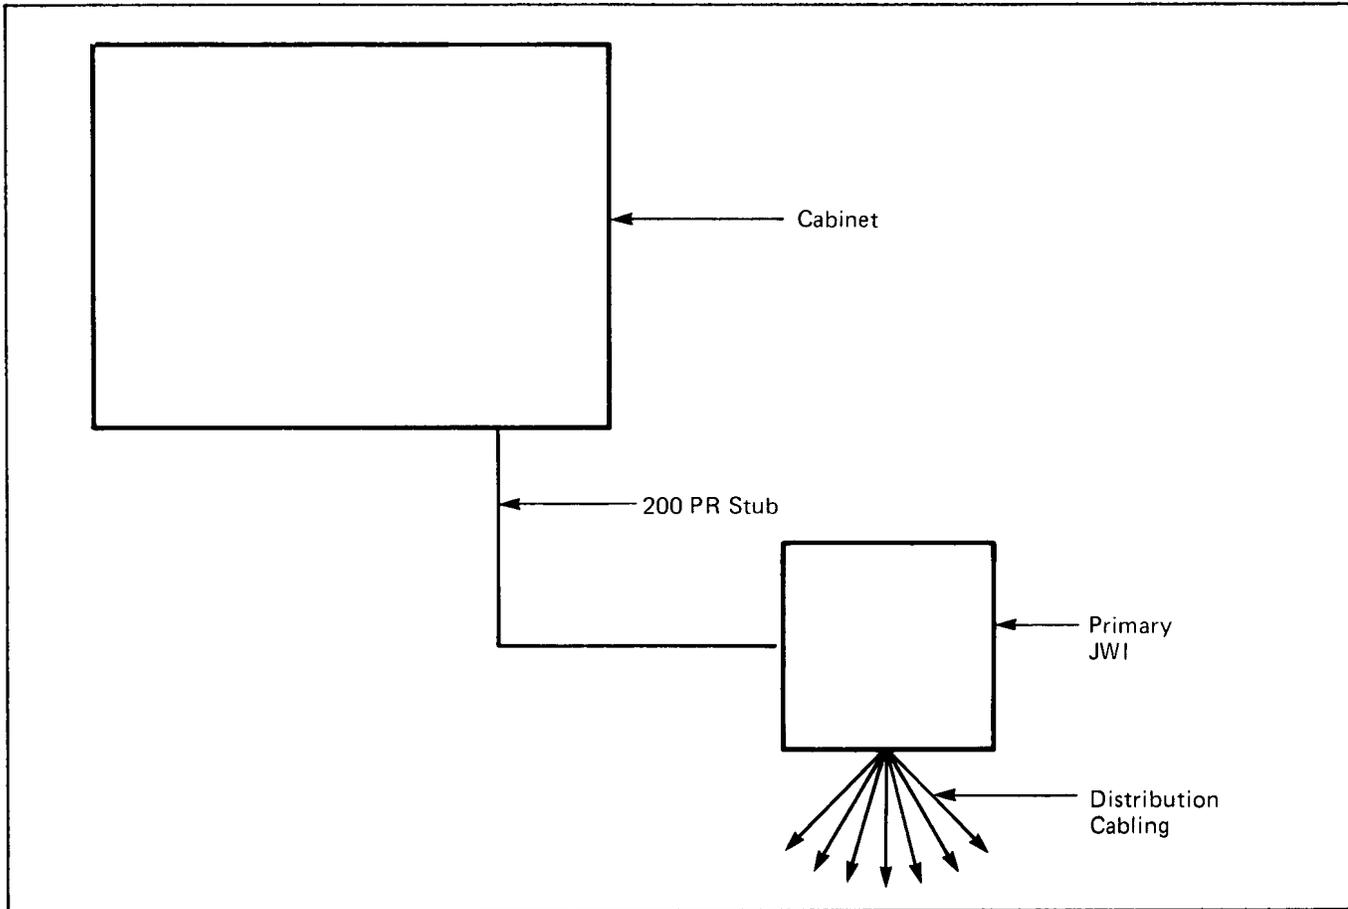

Fig. 22 – Cabinet – Primary JWI Schematic
5.01 A 200-pair PIC cable is required to connect the cabinet cross-connect to a primary Jumper Wire Interface (JWI) (Fig. 22). The length of the interconnecting 200-pair stub cable is determined by the customer.